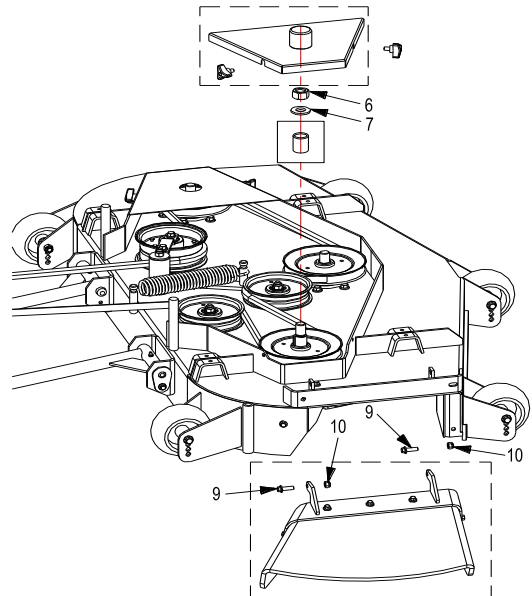

FIG 1
- a) Remove the side discharge chute, bushing, and belt cover from the mower deck (FIG 1).